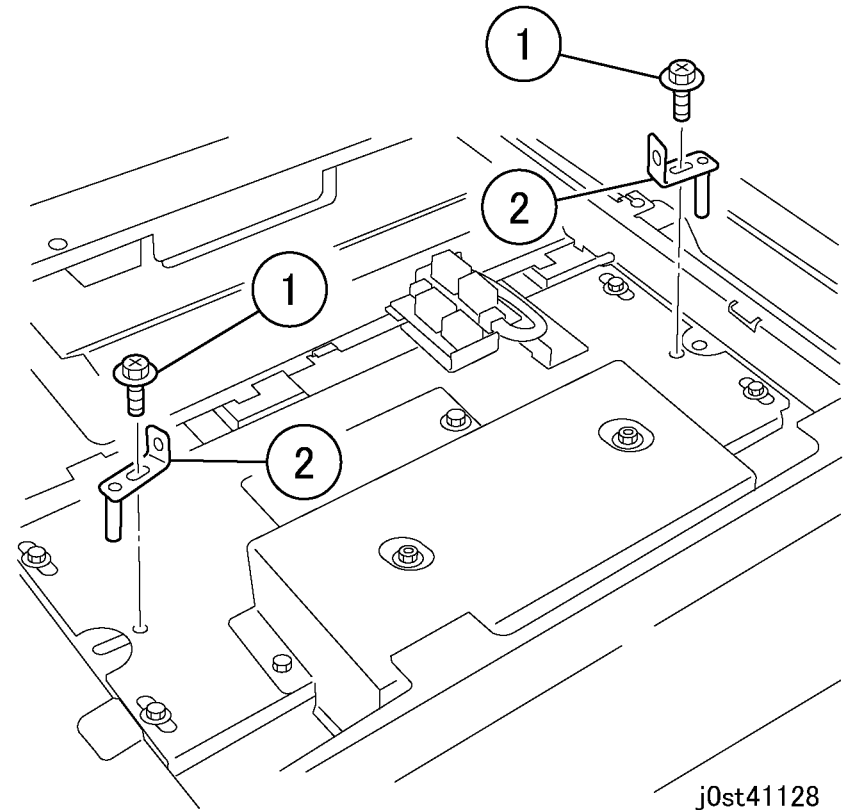

Figure 1 Taking out the tools
4. Prepare the tools (2) for determining the position. (Figure 1)